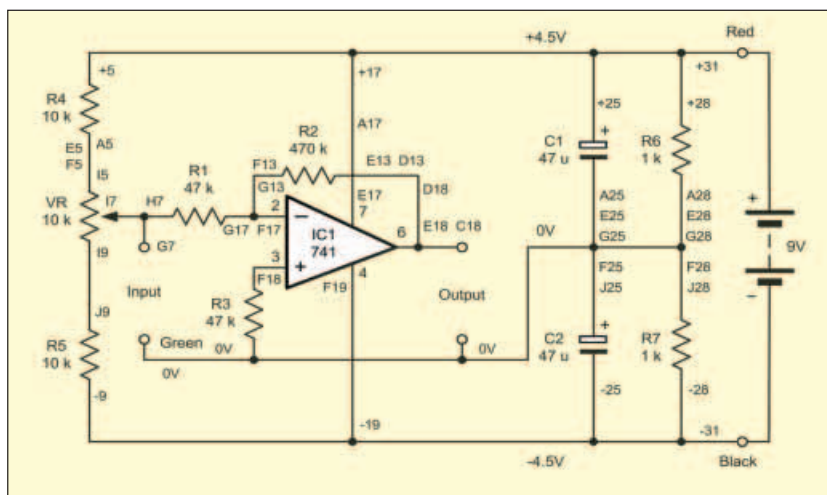

Fig.10.15. Circuit diagram for Practical Investigation 10.1
**Circuit diagram:** See Fig.10.15